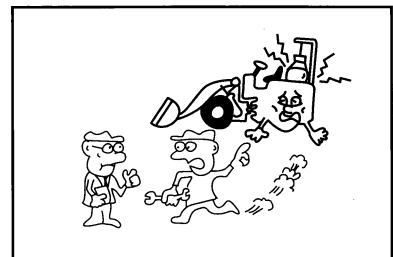

Figure1-42
- If abnormal sound or vibrations occur while the engine is running, it means that the loader has troubles, please resolve the troubles and report to managing personnel. (Figure 1-42)